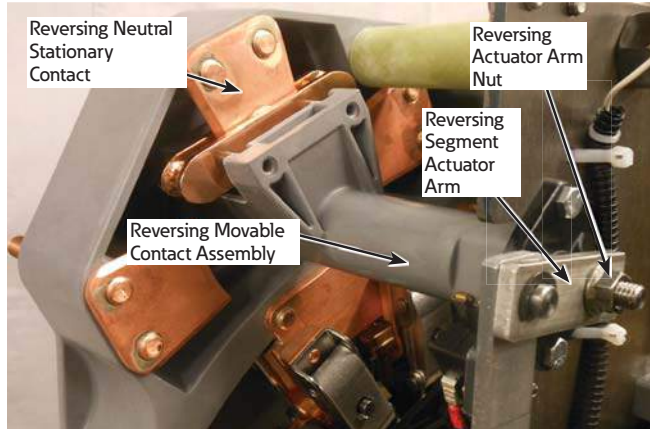

Figure 3. Reversing switch and hardware
2. Using a 9/16" wrench loosen and remove the reversing actuator arm nut. See Figure 3.